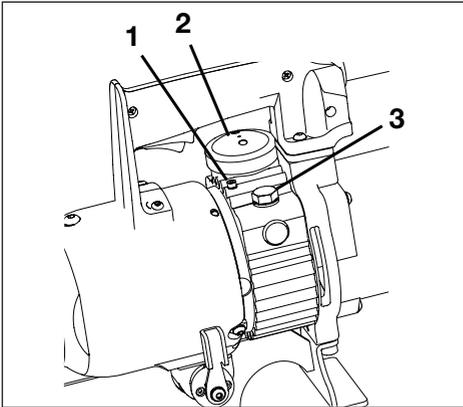
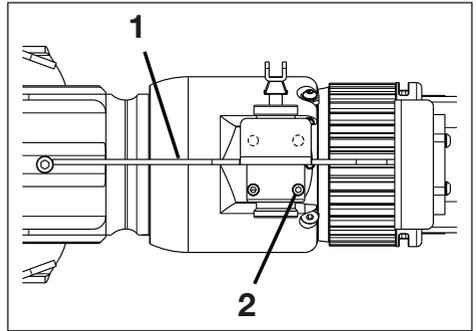

Figure 13A, Vent Screw (1), Diaphragm Cover (2) and Oil Reservoir Cap (3)
Figure 14, Standoff Bracket (1) and Directional Control Valve Screws (2)
Refer to Figures 13A through 13D during the following steps:
Change the oil in the cutter hydraulic reservoir as described in the following steps. Refer to Figures 13A through 13E and Figure 14:
10. After all oil is evacuated, remove the three screws for the standoff bracket and remove the standoff bracket from the bottom of the cutter. See Figure 14.